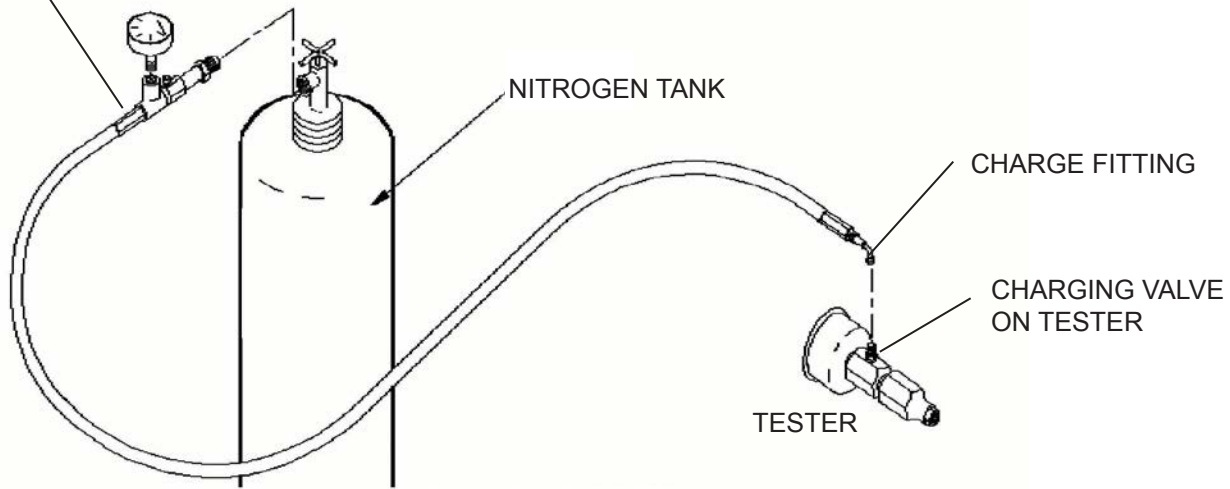

FIGURE 2
2. Connect the charge fitting of the charging assembly to the charging valve on the accumulator tester (see figure 2 on next page).